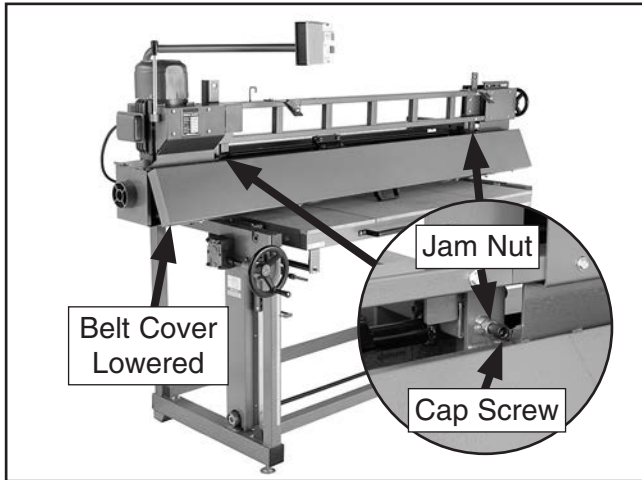

Figure 61. Jam nut and cap screw.
- Lower the belt cover, as shown in **Figure 61**, to gain access to the 90° stop screws. Loosen the jam nut several turns so that the cap screw can turn freely.